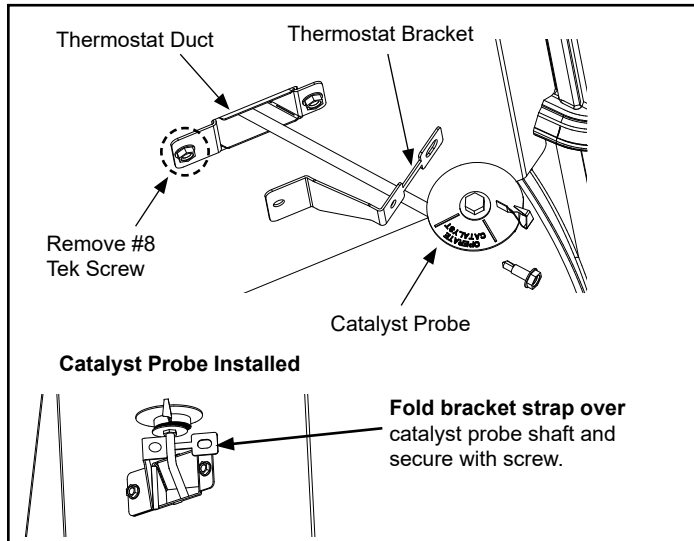

Figure 5.11 - Install the Catalyst Temperature Probe
1. Remove #8 Tek screw as shown in Figure 5.11.